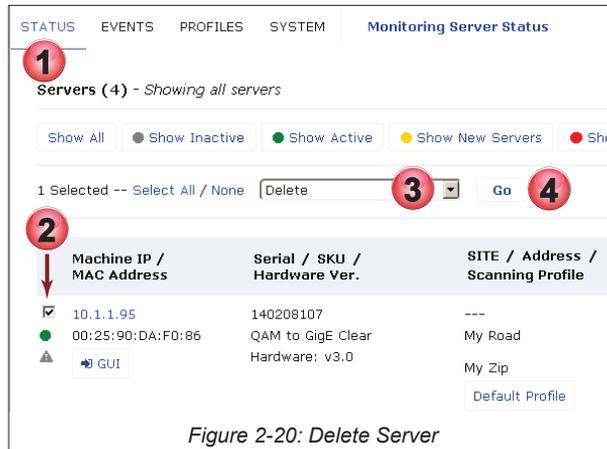

Figure 2-20: Delete Server
1. Click the **Status Tab** if it is not already selected, Figure 2-20.